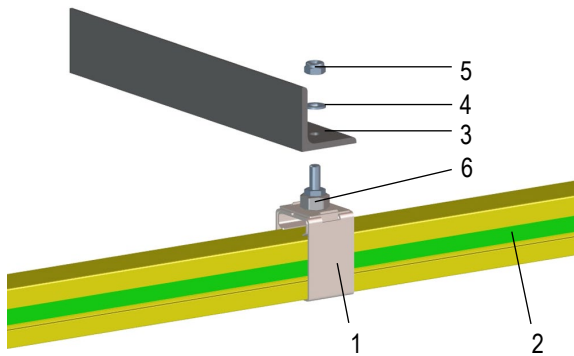

Fig. 21: Installation of the ProfiDAT® profile on the support structure.
- Install the anchor point (3) on the PE rail connector with two screws (5).
- Install the hanger clamp with profile on the support structure (see chapter 6.4.2, Fig. 21).